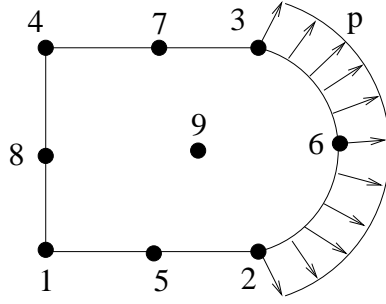

Figure 2:
3. A constant traction p acts normal to the edge 2-3 of a nine-node element as shown in Fig. 2. Assuming the element to be of thickness t , find the consistent load vector, $\int_{T_i} \mathbf{N}^t \bar{\mathbf{t}} d\Gamma$, corresponding to the degrees of freedom associated with nodes 2, 6 and 3. The coordinates of the nodes 1-9 are $(-1, -1)$, $(1, -1)$, $(1, 1)$, $(-1, 1)$, $(0, -1)$, $(1.5, 0)$, $(0, 1)$, $(-1, 0)$ and $(0.25, 0)$, respectively. Use natural coordinates. (Hint: Express the normal vector in terms of dx/ds and dy/ds .) (60)